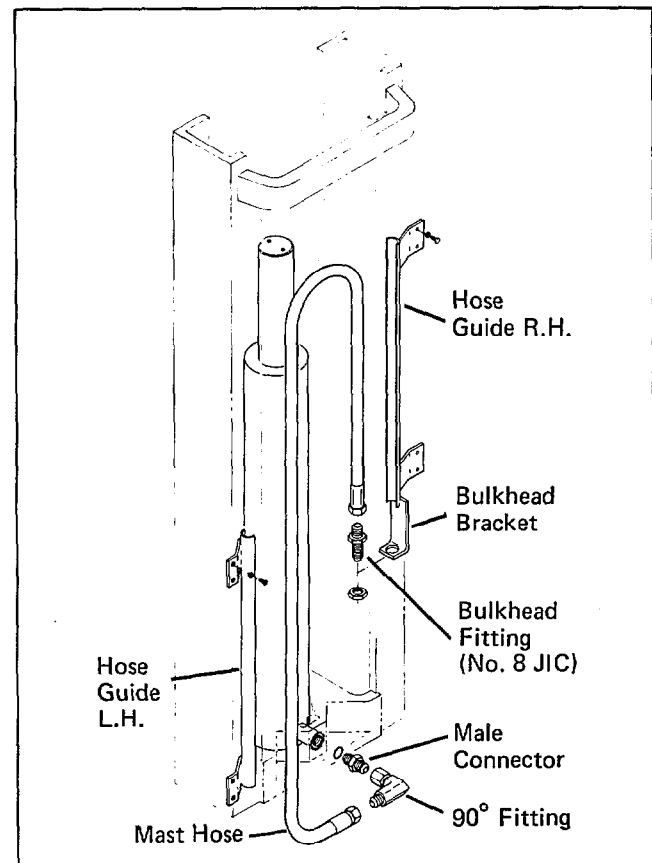

Figure 4-41 Mast Hosing
9. Loop the hose in the hose guides as shown in figure 4-41.